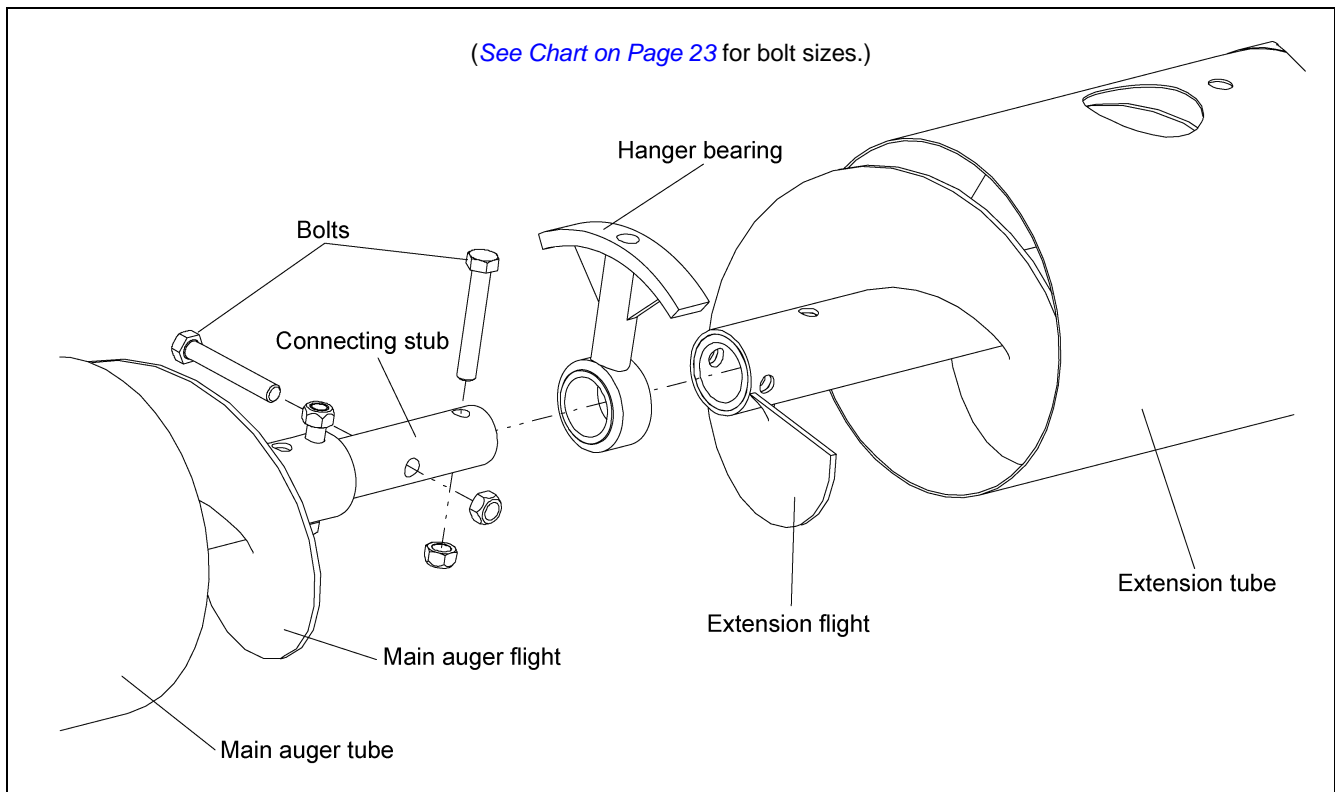

Figure 4R
2. Slide hanger bearing onto connecting stub, followed by extension flight. Bolt extension flight to connecting stub using assigned hardware. (See Chart on Page 23 and Figure 4R.)